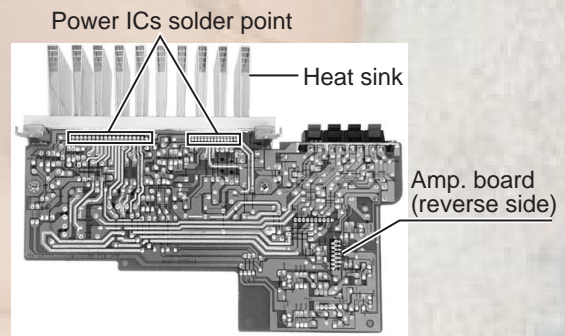

Fig.15
**Removing the power ICs (See Fig.15 and 16)**